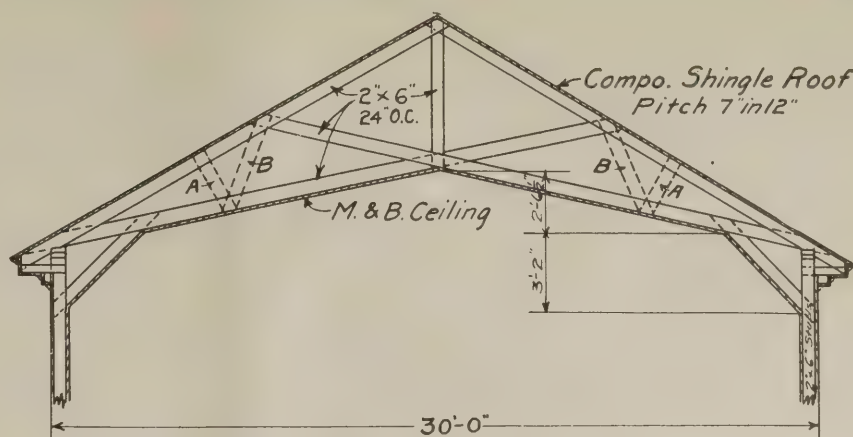
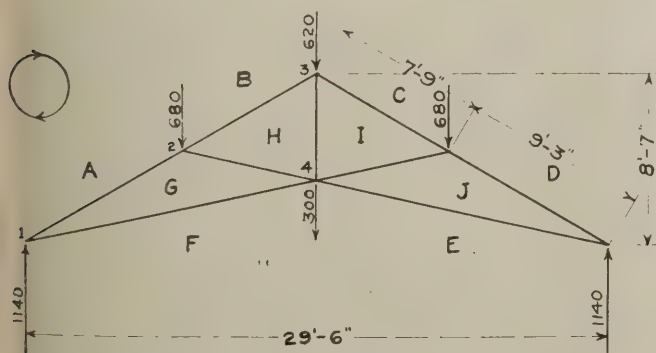

Fig. 1. Cross section of building, showing construction of scissors truss
Fig. 2. Diagram of truss, showing calculation of loads
From T. J. S., Ala.—The writer is a subscriber to the BUILDING AGE and is desirous of obtaining some information on a Scissors Truss. I would like to know whether the braces marked A and B, and shown dotted in Fig. 1, are necessary to keep the truss from sagging. Kindly give me the correct information on this and oblige.
The truss diagram is shown in Fig. 2. This diagram consists of single lines representing the center lines of the truss members.
By introducing the members A and B shown dotted on Fig. 1, the span of the rafter is shortened so that, even though the direct compression is increased somewhat, the  $2'' \times 6''$  rafter will suffice. It might also be added that as the pitch of the roof is rather flat for a scissors truss joint 2 would have a tendency to sag, as the correspondent fears, unless the braces A and B are introduced.
The window detailed in Fig. 1 shows a window frame with sliding sash for a wall with 6-in. studs. These permit the use of thicker sash (which should be at least  $1\frac{1}{4}$  in.) and of the convenient insertion of mosquito screens (A) and of outside shutters (B), as indicated in the section through the head. This drawing also shows the stop bead (C) increased in width at the top and carried across to the inner face of the sash, producing a very neat interior finish. The outside architrave here shown, although stubby and quite plain in appearance, may be indefinitely elaborated to suit the character and requirements of the design; but as explained in the previous article, it should be at least  $1\frac{1}{4}$  in. thick to accommodate the outside shutter and to serve as a stop for the clapboards or shingles.
a tongue at the outer edge of the pulley stile. These tongues, at the yoke and the pulley stile, tend to stiffen the entire window frame and thus facilitate the movement of the sashes. Whether these tongues are placed at the front, as shown in the section through the jamb Fig. 4, or at the back, as shown in the section through the head Fig. 1, does not materially matter. The writer, however, prefers the former practice for, in case of shrinkage, no ugly open joints would be visible.
In Fig. 2 is shown a section of a double hung window through a wall built of 5-in. studs, together with interior and exterior elevations. The interior is quite elaborate in design showing a classic Doric column and entablature. The sill is finished on the inside with a moulded panel, forming a kind of pedestal to the interior scheme of columnar decoration. The point which engages our particular attention in the section through the sill, is the rebate under the lower sash. This is a desirable feature, for in addition to preventing the lower sash from getting stuck, it acts as a drain for any water that may have worked itself down to the sill. If the water were allowed to remain in the joint between the sash and sill it would cause all the timbers thereabout to rot. The rebate in the sill directly underneath that of the sash helps the latter in the discharge of its function as a drain. Note also the construction of the double sill. This is simply an alternate to the two-section sill described in connection with Fig. 1. The double sill makes use of small pieces of timber, which is a very desirable feature, since it reduces the possibility of warping or twisting. The two parts, sill and sub-sill, should be well nailed or doweled together to make a water-tight connection.